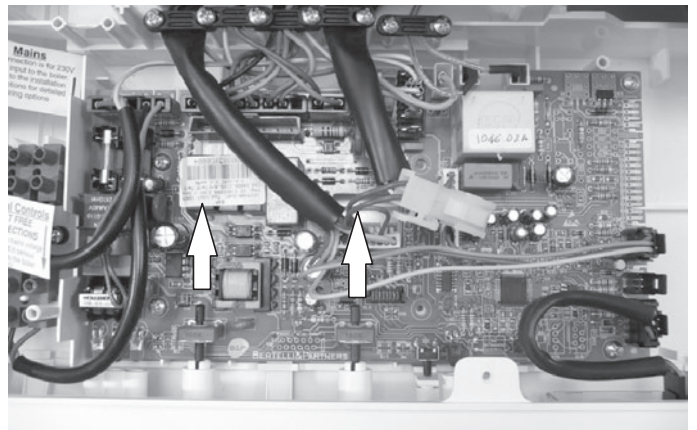

Figure 8.25
- 3 Remove the spindles of the c.h. and d.h.w. temperature adjustment knobs by delicately pulling them with pliers in the direction shown by the arrows in Figure 8.25.